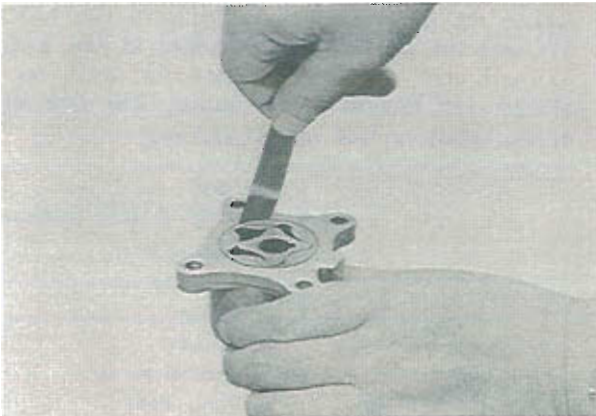

Fig. 2-4 Checking clearance of outer rotor and body
2. Check the clearance between the outer rotor and pump body with a feeler gauge as shown in Fig. 2-4. The specified clearance is 0.200 ~ 0.245 mm (0.008 ~ 0.010 in). If the clearance is more than 0.30 mm (0.012 in), replace both rotors.